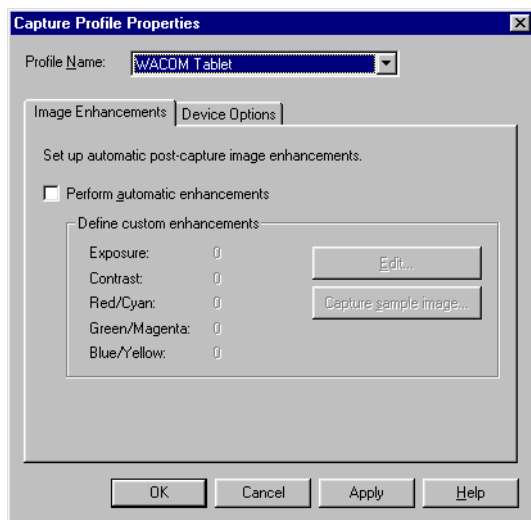

Figure 28: Capture Profile Properties
3. To set the digital tablet's operating parameters, click the **Properties...** button. The Capture Profile Properties window appears, displaying the Image Enhancements tab (see Figure 28).